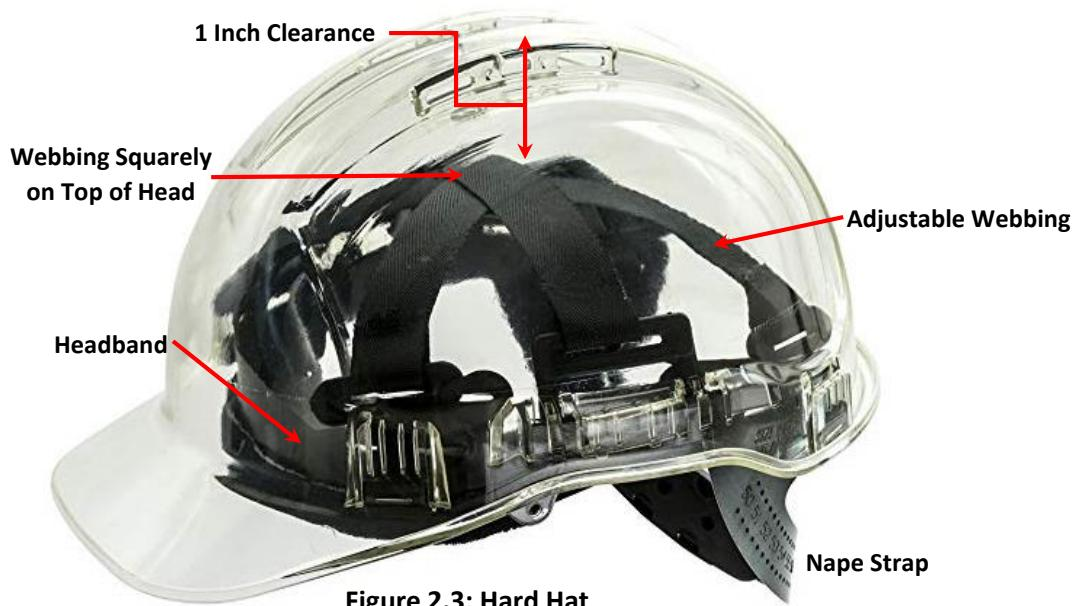

Figure 2.3: Hard Hat
- 2-17 One of the most common pieces of personal protective equipment is the hard hat. Once made of metal, today's hard hats are made of reinforced plastic, which can offer the advantage of electrical insulation. They have an adjustable headband and suspension webbing, as shown in Figure 2.3. The webbing should provide a 1-inch clearance between your head and the top of the shell. Without this space, a blow from a falling object would be transmitted directly to the skull and could cause serious injury. The webbing also allows air to circulate under the shell. In warm weather or warm work areas, this circulating air helps keep you cool. In cold weather, a liner inside the hat will help keep your head and ears warm.